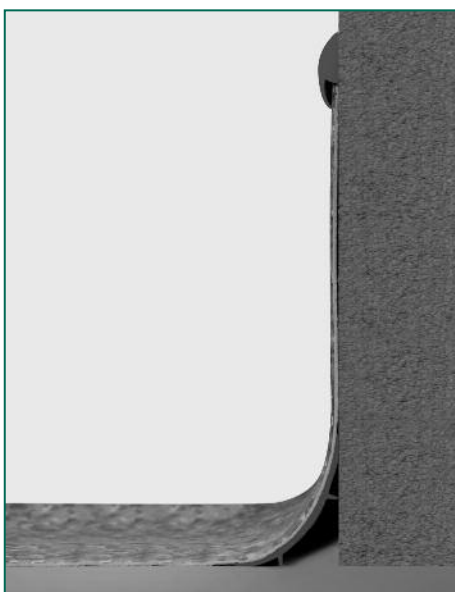

Figure 8 CS capping strip
- E.** Using a piece of capping strip, mark where the strip overlaps the wall and vinyl sheet. Apply contact adhesive between the lines and to the back of the capping strip. When dry, push into place (Figure 8).